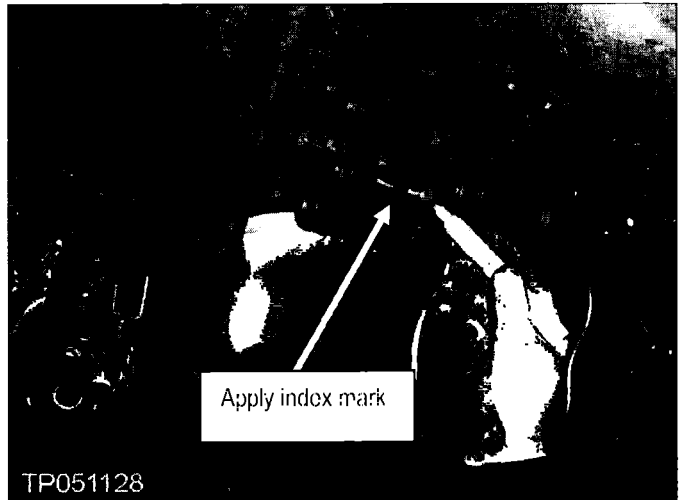

Figure 51
17. Apply an "index" (line up) mark across the propeller shaft and differential pinion flange for correct re-assembly (see Figure 51).